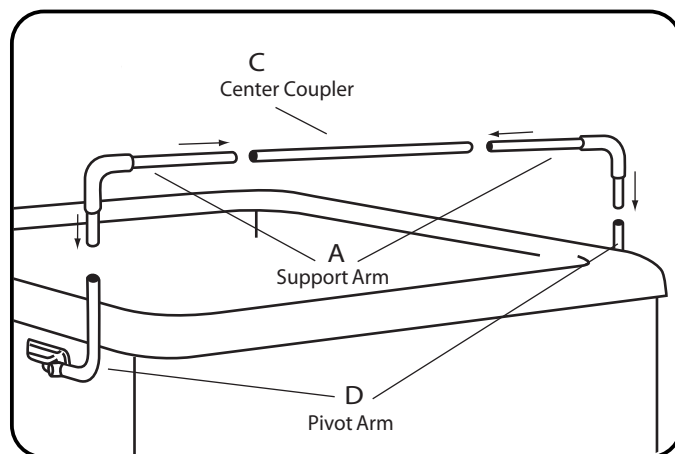

Figure 6
Insert the long end of the Support Arms (A) into the Center Coupler (C) then slide the short ends of the Support Arms into the Pivot Arms (D) (see 'Figure 6'). We will refer to connected Support Arms and Center Coupler bar as the 'lifter bar' for the next step.